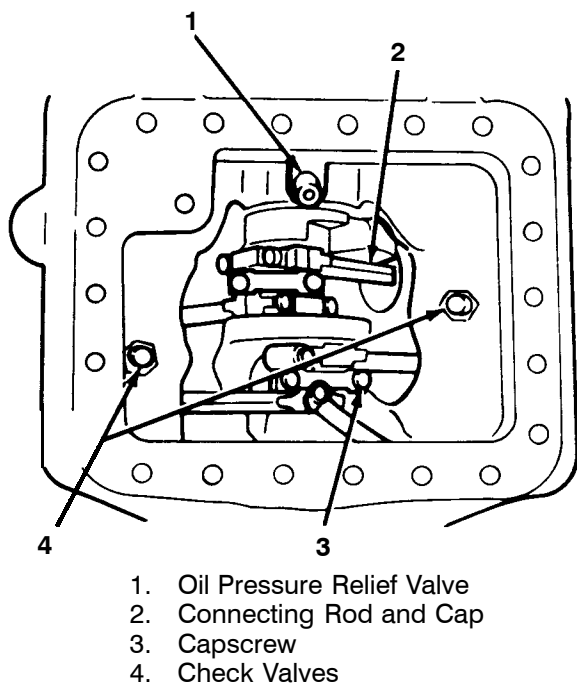

Figure 3-11. Bottom Plate and Oil Strainer Removed
3. Match mark each connecting rod cap and connecting rod for correct reassembly. Remove the capscrews, flat washers and connecting rod caps. It is recommended that the capscrews and flat washers be discarded and new capscrews (special) and flat washers be installed during compressor reassembly. (See Figure 3-11)
2. Remove and check operation of oil return check valves (See Figure 3-11). The check valves are free floating devices and can easily be checked visually.
3. Remove and check oil pressure relief valve (See Figure 3-11). The oil pressure relief valve is a spring
3. Check operation and reinstall check valves and relief valve. (See Figure 3-11). The check valves are free-floating devices and can easily be checked visually. The relief valve is a spring-loaded device which can be checked by using a small piece of stiff wire to ensure that the spring mechanism can be depressed.